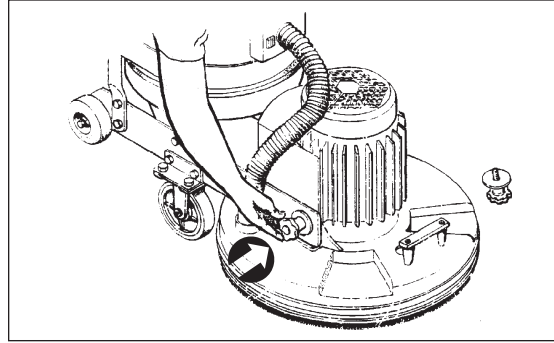

Figure 6
3. Attach the sanding unit to the truck frame by securing the two hand knobs through the truck frame to the sanding unit. (see Figure 6). The eccentrics in the truck frame should be used for proper alignment between the truck frame and sanding unit. Match tick marks on spacers and frame; one on right and two on left.